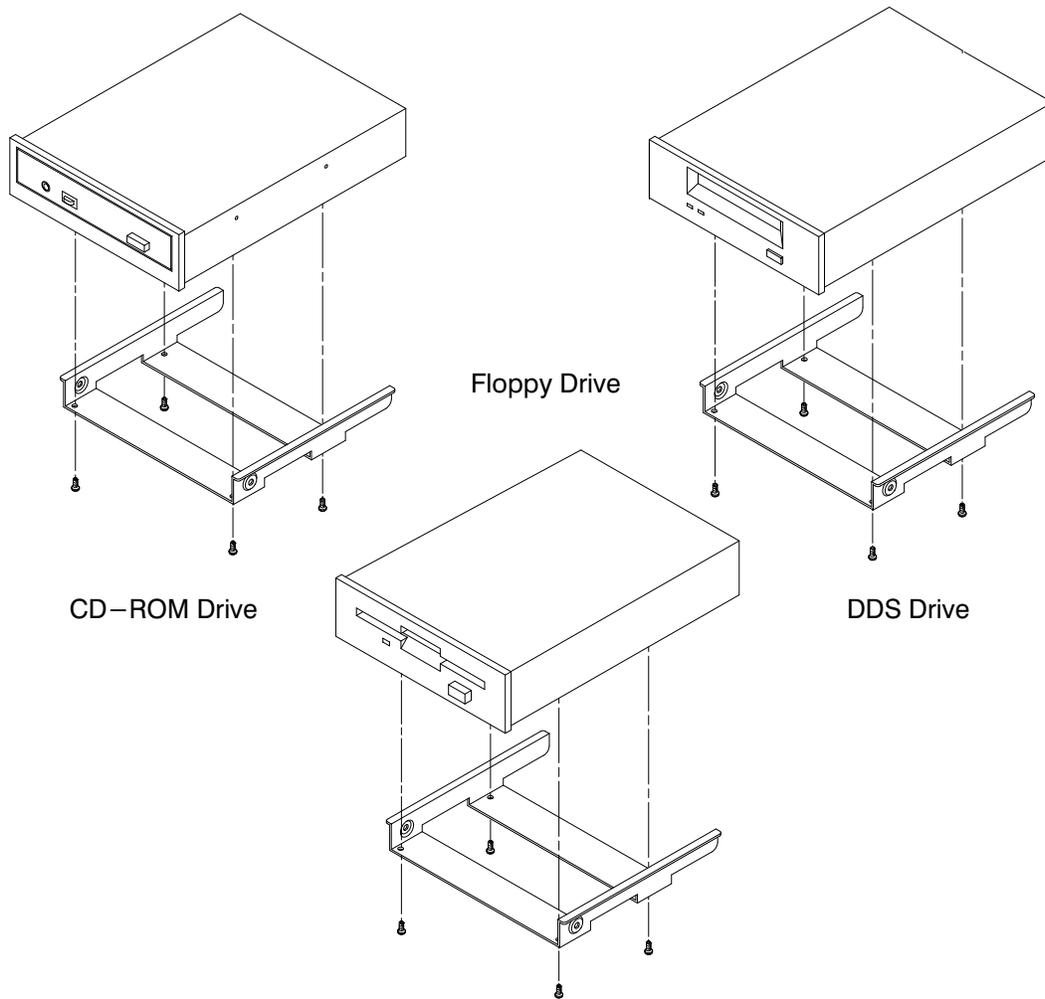

Figure B-13. Attaching Removable Drive Mounting Bracket and Drive Orientation
- 12.** Figure B-13 shows the orientation of each of the removable media drives in the bracket and the position of the screws holding the drive bracket in place. The same bracket can be used on all three drives.